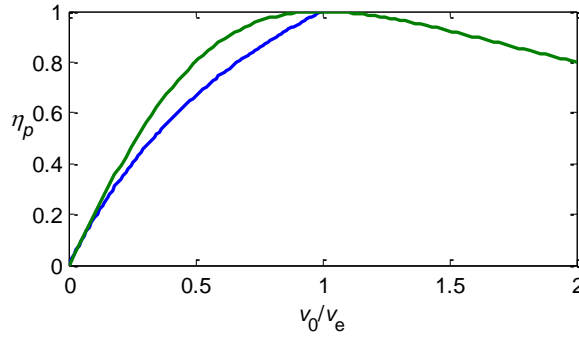

Fig. 2. Propulsion efficiency,  $\eta_p$ , vs. flight speed to exit speed ratio,  $v_0/v_e$ , for a rocket (green line) and an air-breathing engine (blue line).
Propulsion efficiency  $\eta_p$  (i.e. of the propeller itself) is zero at rest, and varies with advancing speed to a maximum value of about  $\eta_p=0.9$ , as later shown in Fig. 2.
As always, the propulsion efficiency is zero at  $v_0=0$  (there is thrust but not propulsion), and grows to 1 as the exit speed decreases towards the flight speed (but contrary to turbojets, the thrust does not approach zero at  $v_e=v_0$ , and the advancing speed of the rocket may be larger than the exit flow speed, as typical in orbital rockets). Efficiencies (15) and (11) are plotted in Fig. 2.